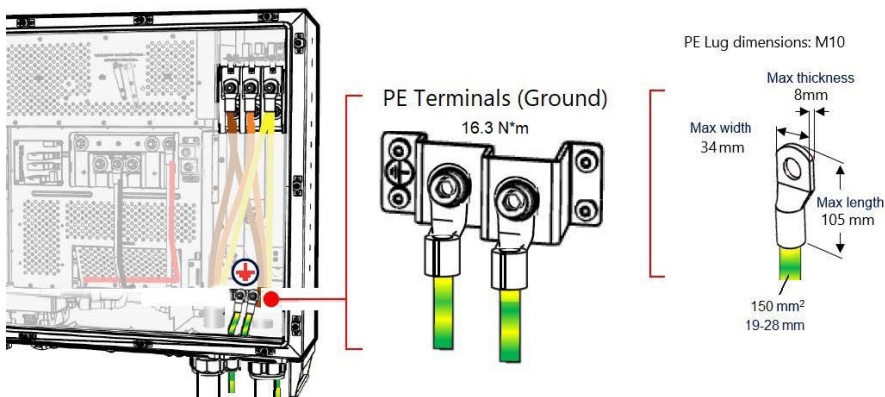

Figure 32 Connecting PE (Ground) to the Inverter
- Strip the required length of insulation from the PE wire, crimp a lug, and connect the wire to a PE terminal and tighten the screw to 16.3 N*m (see Figure 32).